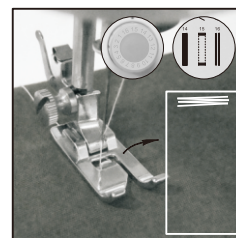

Fig.15
- (1) Put the cloth under the presser foot and lower the presser foot on the cloth where you need to sew buttonhole, then choose the 15th stitch.
- (2) Turn on the switch and sew 5-6 stitch in low speed, then turn off the switch (Fig. 15).